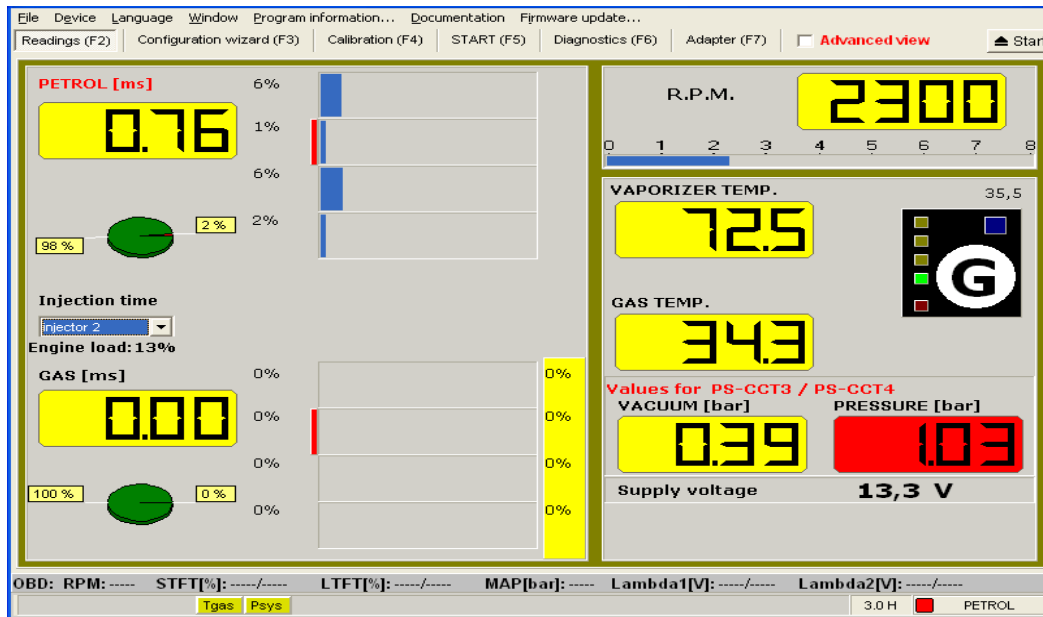

Figure 3.20: Microinjections visible on readings tab
- **Microinjection-type engine** – enable this option if engine is microinjection-type. Engines of that type apart from a main injections in a single cycle, have also very short injections, called microinjections. If this option is not set and the engine has microinjections, petrol injection time it not stable and have small and big values by turns (see figure 3.20). In that case small values means microinjections time (0,76ms in figure 3.20). It is advised to set the microinjection time longer than values visible on Readings tab (for this example the proper value is minimum 0,90ms).